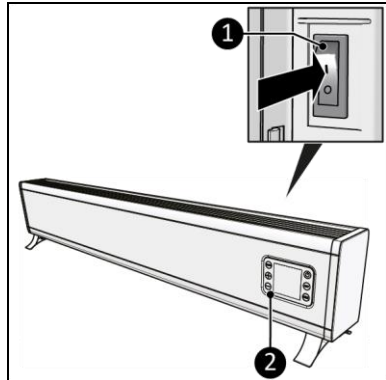

Figure 14
1. Set the ON/OFF switch to the ON position (Figure 14, pos. 1).
2. The display (Figure 14, pos. 2) will show OFF.